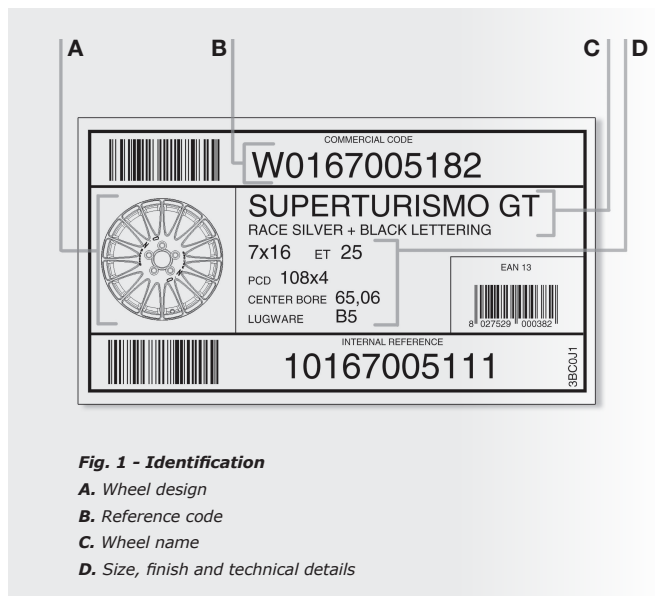

Fig. 1 - Identification
- the material you received is exactly what you ordered by checking the descriptive label on the outside of the box (fig.1) and the code stamped on the wheel.